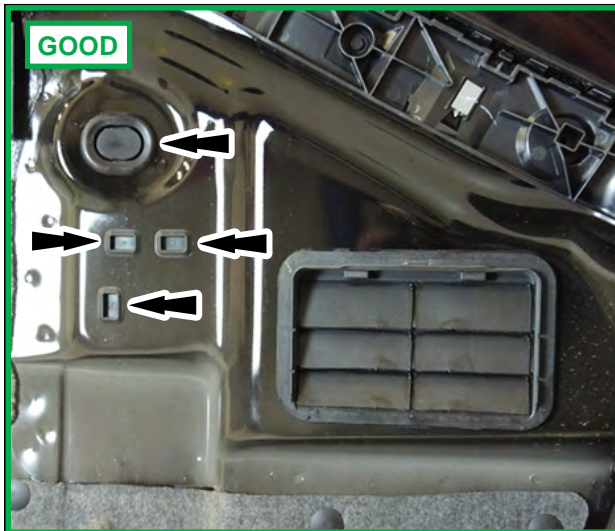

FIGURE 4a
- Using a telescoping mirror and flashlight, inspect the 4 body plugs and air extractor through the wheelhouse openings on each side of the vehicle to determine if aftermarket wiring has been routed through these components. Reroute aftermarket wiring as needed. See Figures 4a and 4b.